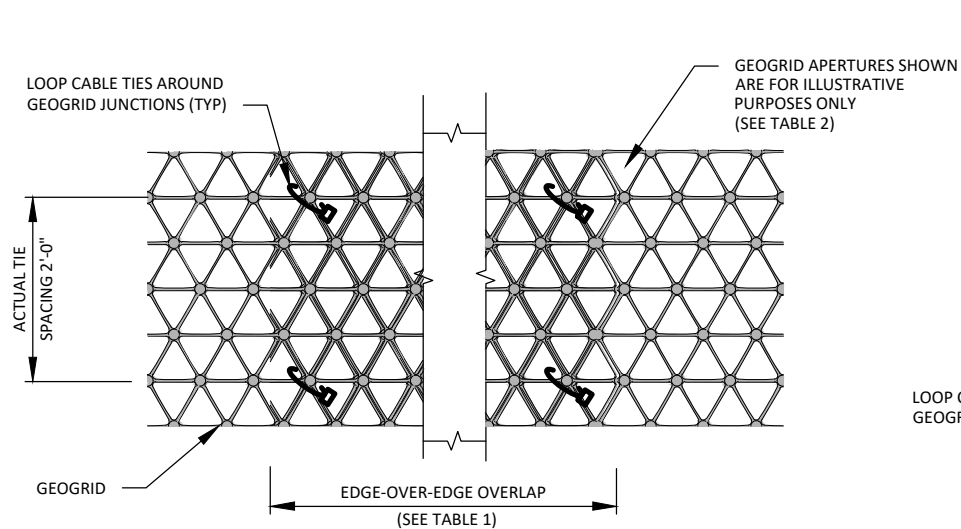

FIGURE 5A - CABLE TIE LOCATION AT EDGE OVERLAPS
3. NYLON CABLE TIES ("ZIP TIES") SHALL BE USED TO CONNECT ADJACENT GEOGRID ROLLS WHERE THE SUBGRADE CBR VALUE IS 0.5 OR LESS. SEE FIGURES 5A AND 5B FOR CABLE TIE SPACING. CABLE TIES ARE NOT REQUIRED WHERE THE SUBGRADE CBR VALUE IS HIGHER THAN 0.5, ALTHOUGH THEY MAY BE STILL BE USED AS A CONSTRUCTION AID IN THESE CASES TO HELP MAINTAIN THE REQUIRED OVERLAP DIMENSIONS.